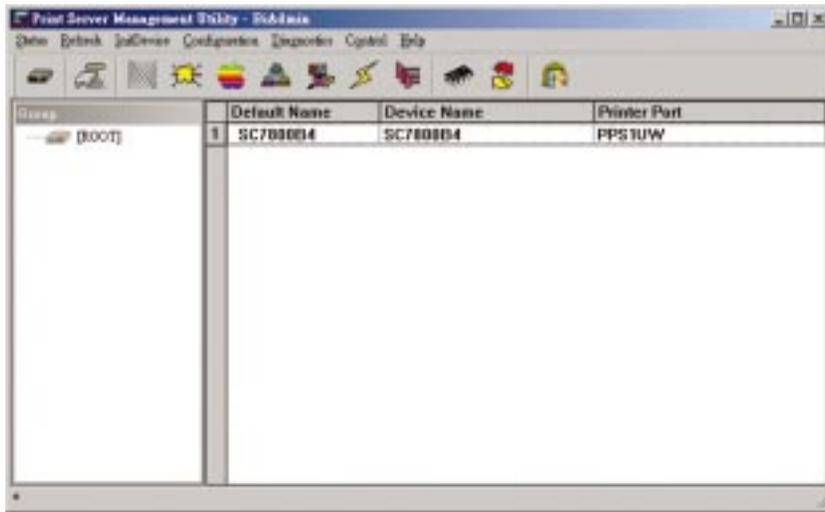

Figure 5-1
2. When the Bi-Admin program appears, it will ask for the Connected Protocol. Make sure the box next to **TCP/IP** is checked. Click the **OK** button. Then the Bi-Admin program will automatically scan the network for available Wireless-Ready PrintServer hardware. Any hardware found on the network will appear in the Default Name, Device Name, and Printer Port categories on the righthand side of the window, as shown in Figure 5-1. The Default Name is the SC number located on the back or bottom of the Wireless-Ready PrintServer unit, and it cannot be changed.